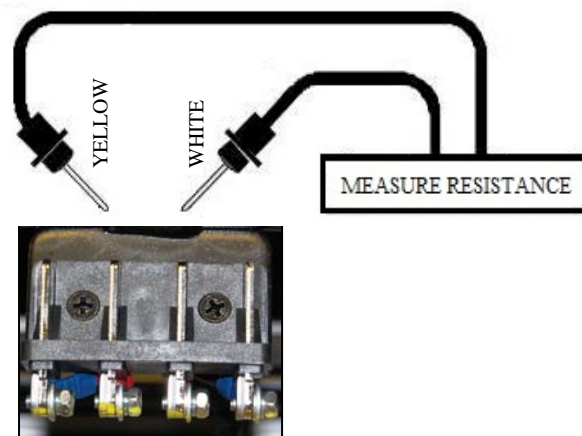

Figure 21. Connector 9
14. Measure resistance across the two inside pins on the intermediate harness connector (9) *with park brake engaged*. **See figure 21.**
- Open? – Check the connections at connector (9).